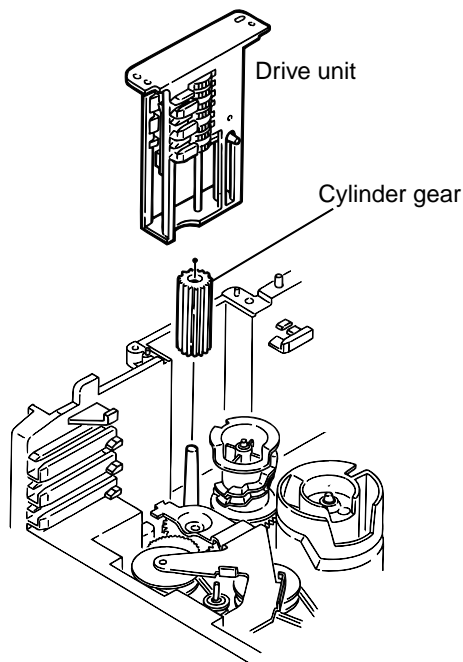

Fig.17
3. Pull out the drive unit and cylinder gear (See Fig.17).